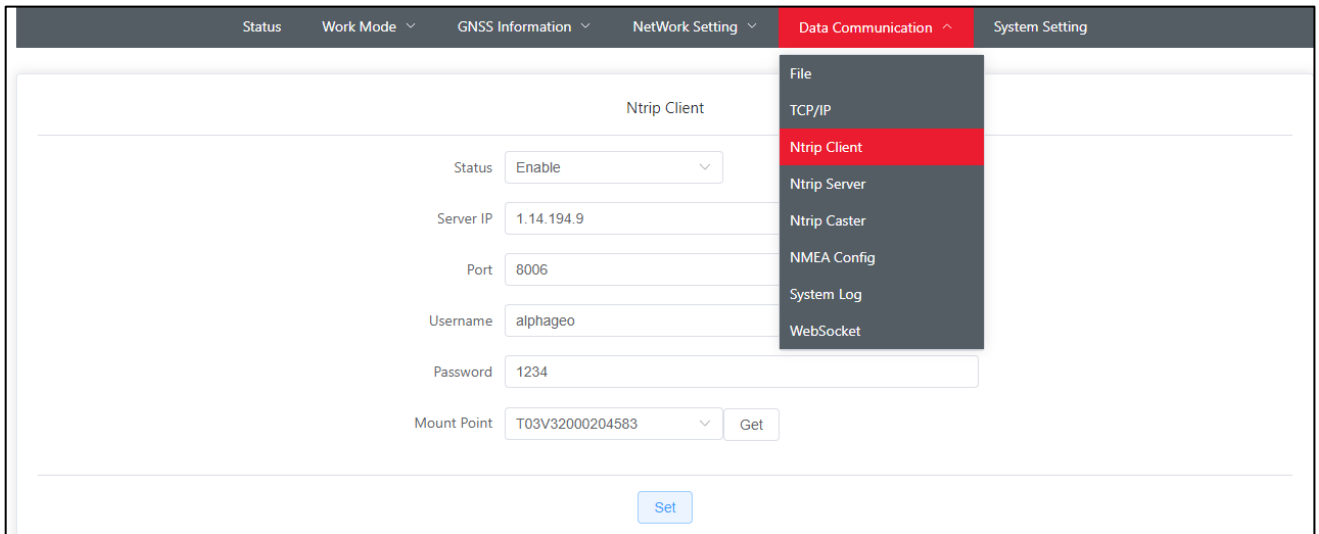

Figura 3-4-2: NTRIP Client
2. Acesse o menu **Data Communication** → **NTRIP Client** (Figura 3-4-2).